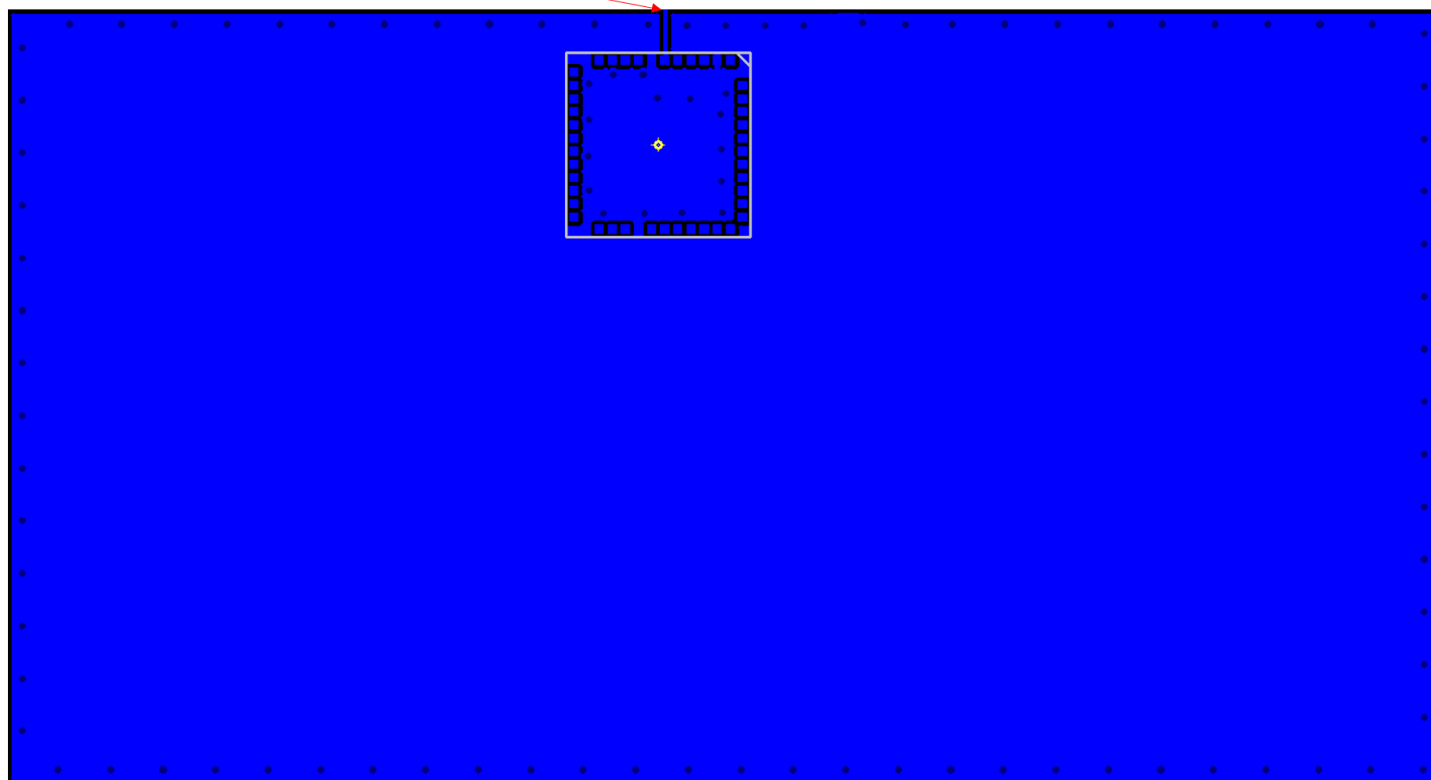

Figure 7.4. Recommended Layout for BGM240S (External Antenna)
- With an external antenna, use a 50Ω trace to connect RF signal to the antenna, as it is illustrated in Figure 7.4 Recommended Layout for BGM240S \(External Antenna\) on page 39